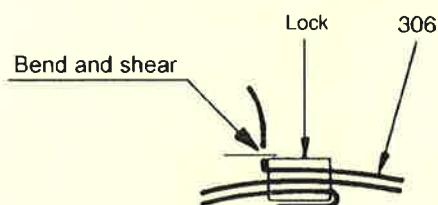

Figure 13: Canting and shearing the joint clamp
- When using the clamping tool PoK-It II, cant the joint clamp (306) after tightening on the joint clamp lock by swiveling the clamping tool in such a way that the clamp cannot slide back through the lock. After canting at the joint clamp lock, shear off the joint clamp with a pair of metal shears and deburr the cutting edges (see figure 13).